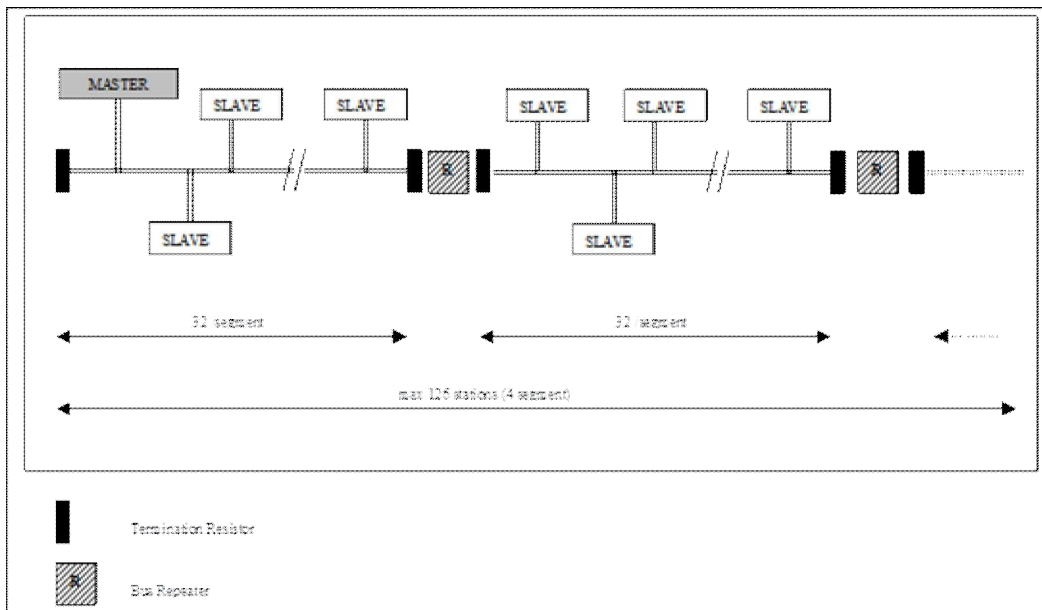

Figure 2-1. Cabling and bus termination
1. Profibus devices are connected in a bus structure. Up to 32 stations (master or slaves) can be connected in one segment. The bus is terminated by an active bus terminator at the beginning and end of each segment (see *Figure 2-1*). To ensure error-free operation, both bus terminations must always be powered. When more than 32 stations are used, repeaters (line amplifiers) must be used to connect the individual bus segments.